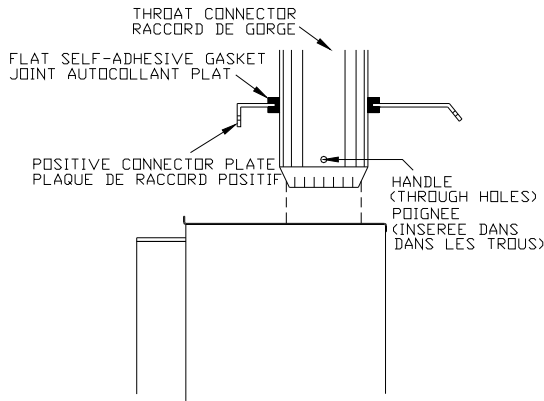

Figure 4
- D. Install the flat self-adhesive gasket around the inside of the 6" diameter (152mm) hole in the plate. Put the handle through the two holes in the throat connector (see Figure 4). Install the female end of the throat connector up through the hole in the plate so that it is held in position by friction, ready to be pulled down later.